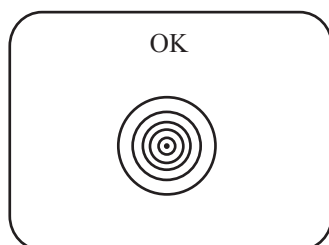

Fig.1
In case the shape is like "Fig.1", remove the lens from the alignment equipment.
- Rotate the micrometer (X-axis and Y-axis) so that the point image on the monitor is like "Fig.1".
- When the point image becomes like the above "Fig.1", tighten the three (loosened) screws of the 4th lens-G unit with the below three alignment screwdrivers.